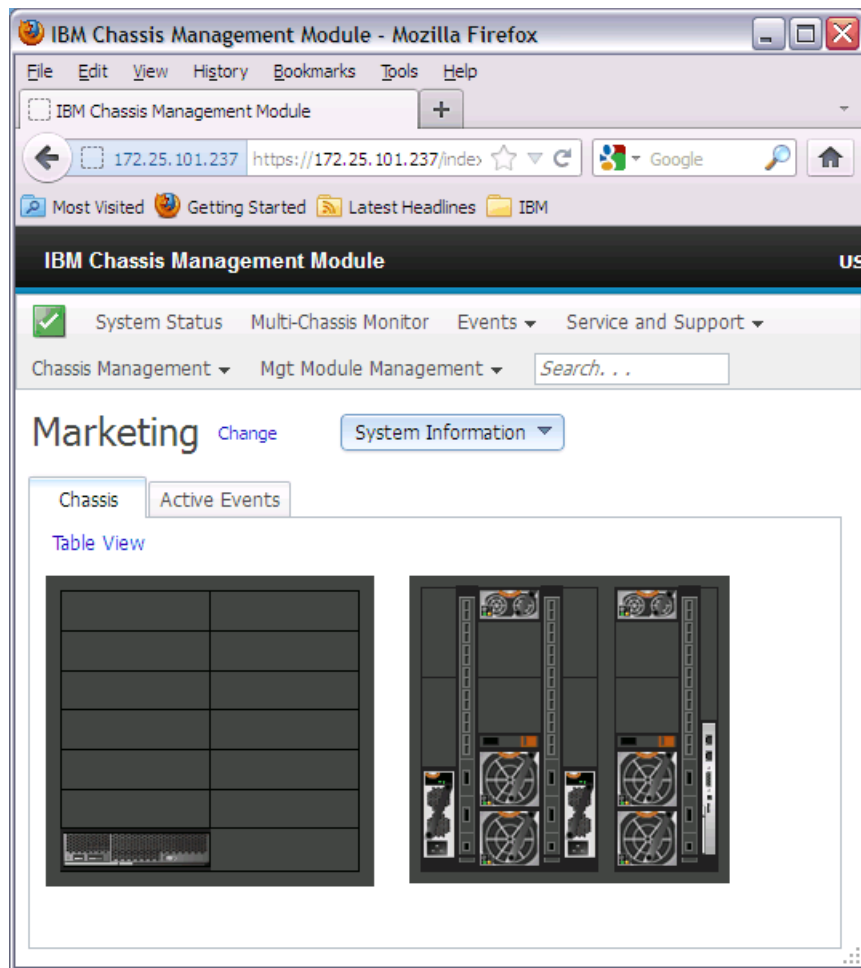

Figure 8-9 CMM GUI
2. After successfully logging in, the CMM GUI displays (see Figure 8-9).